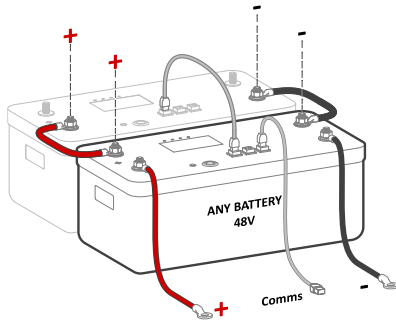

Figure 5a: 48V batteries in parallel connection
- B. Depending on the battery voltage, wire up the battery bank in the possible configurations shown in figures 5a-5c.